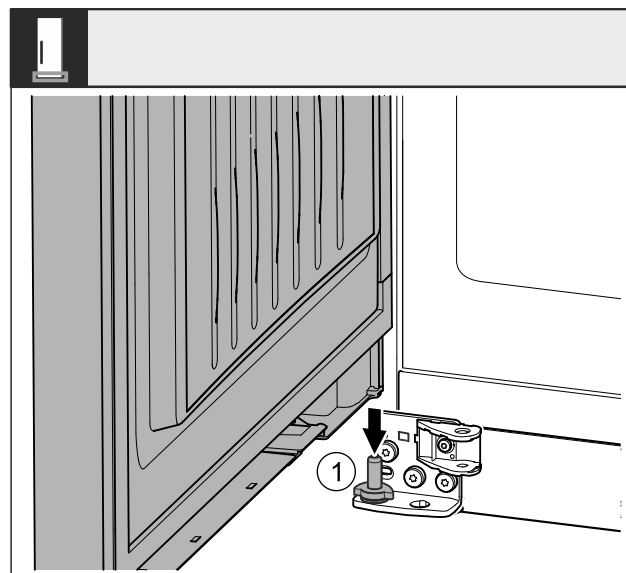

Fig. 37
- ▶ Fit the door onto the lower bearing pin Fig. 37 (1) from the top.